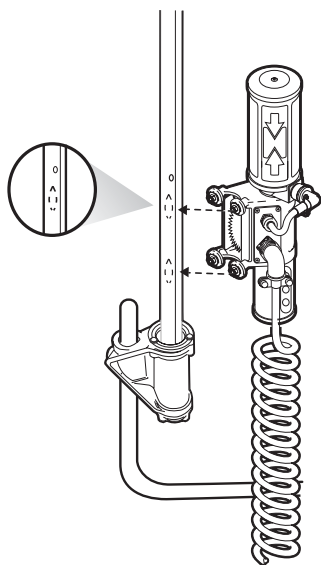

Figure 9-4. Attach Trackerjack to Vibration Pole
4. Place the Trackerjack on the vibration pole so the four wheels slide into the slots at the bottom of the pole (Figure 9-4).